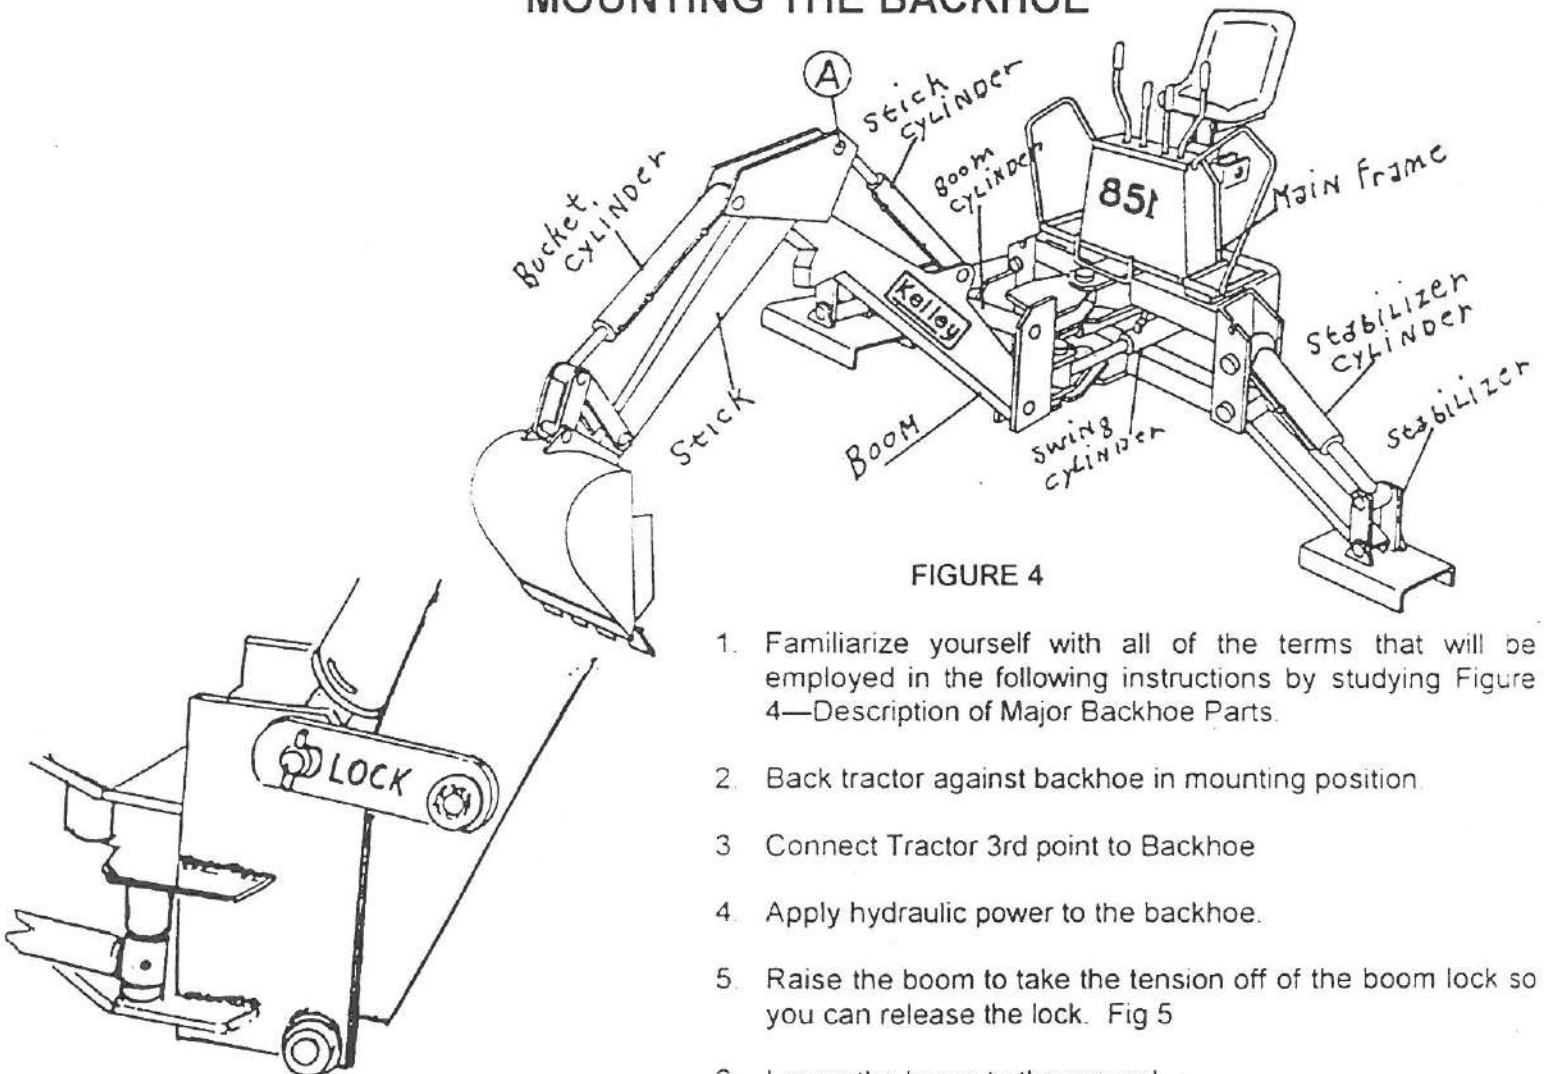

FIGURE 4
1. Familiarize yourself with all of the terms that will be employed in the following instructions by studying Figure 4—Description of Major Backhoe Parts.
7. Remove the pin from Point A of Figure 4 & connect dipper cylinder.